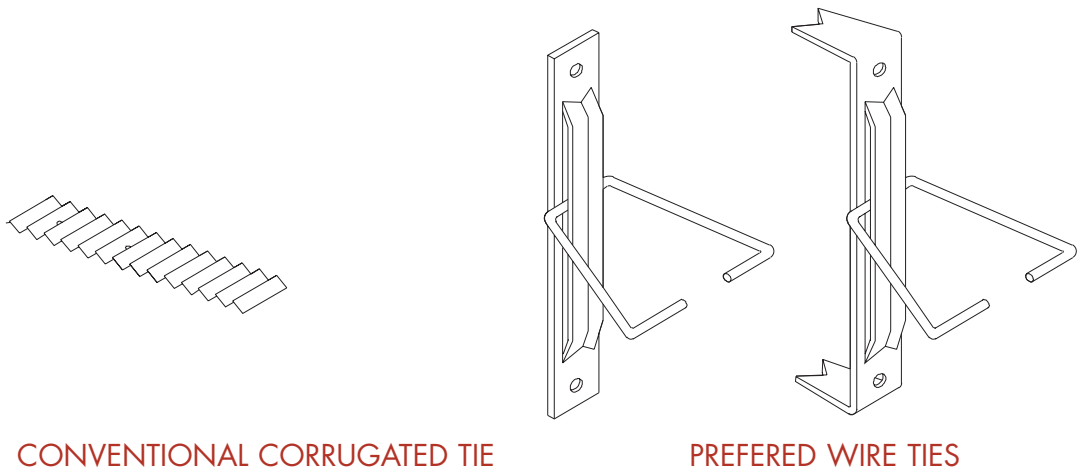

FIGURE 3
■ Wall cracking associated with failure of structural elements. Above-ground examples include cracking or displacement of brick over openings resulting from deflection or failure of lintels or the deterioration of mortar joints in masonry arches; cracking from outward displacement of sloped roofs due to lack or failure of collar ties; bulging and cracking of walls caused by deteriorated or inadequate wall ties; cracking due to inadequately supported point loads; cracking due to ground tremors, nearby construction, or heavy traffic. Light gauge (22 or 24 ga.) corrugated wall ties typically used in residential construction are not recommended, according to the BIA, for three reasons: the tie shape allows water to flow more freely to the interior of the wall; they are susceptible to corrosion; they have poor strength to transfer loads between the brick wythes and the building structure. Adjustable ties, similar to those recommended for use with metal studs, (Fig. 3) are preferred. Serious structural problems require a professional engineer's assistance in determining appropriate corrective measures.